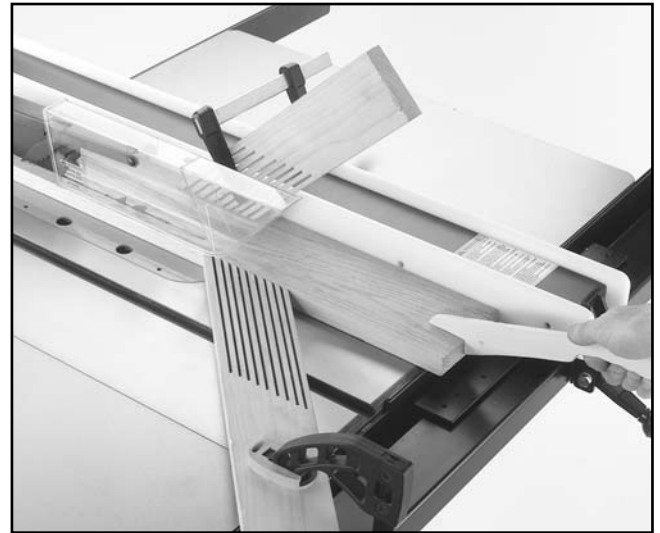

Figure 31. Typical ripping operation.
8. Using a push stick, feed the workpiece through the saw blade as shown in **Figure 31**, until the workpiece is completely past the saw blade. *When a small width is to be ripped and a push stick cannot be safely put between the blade and rip fence, rip a larger piece to obtain the desired piece.*